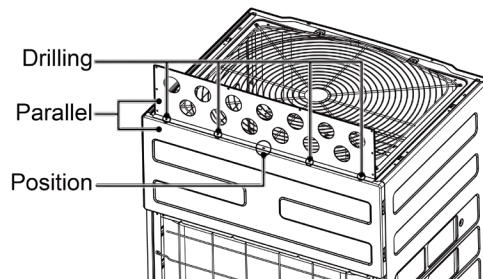

Fig. 3.3
(1) Drill the location hole. Fix the location for Top Plate 3 through the reserved hole and panel of the unit, as is shown in Fig 3.3. Drill 4 holes with the drill  $\Phi 3.8$ , please pay attention to the drilling depth to avoid damaging the components nearby, otherwise, the unit might lose efficacy.